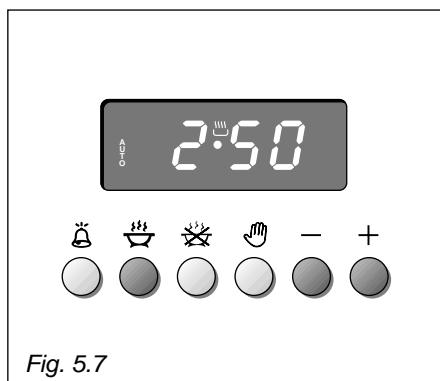

Fig. 5.7
1. Set the length of time you need to cook the food by pushing the  button and the  button to advance, or  to go backwards (Fig. 5.7).